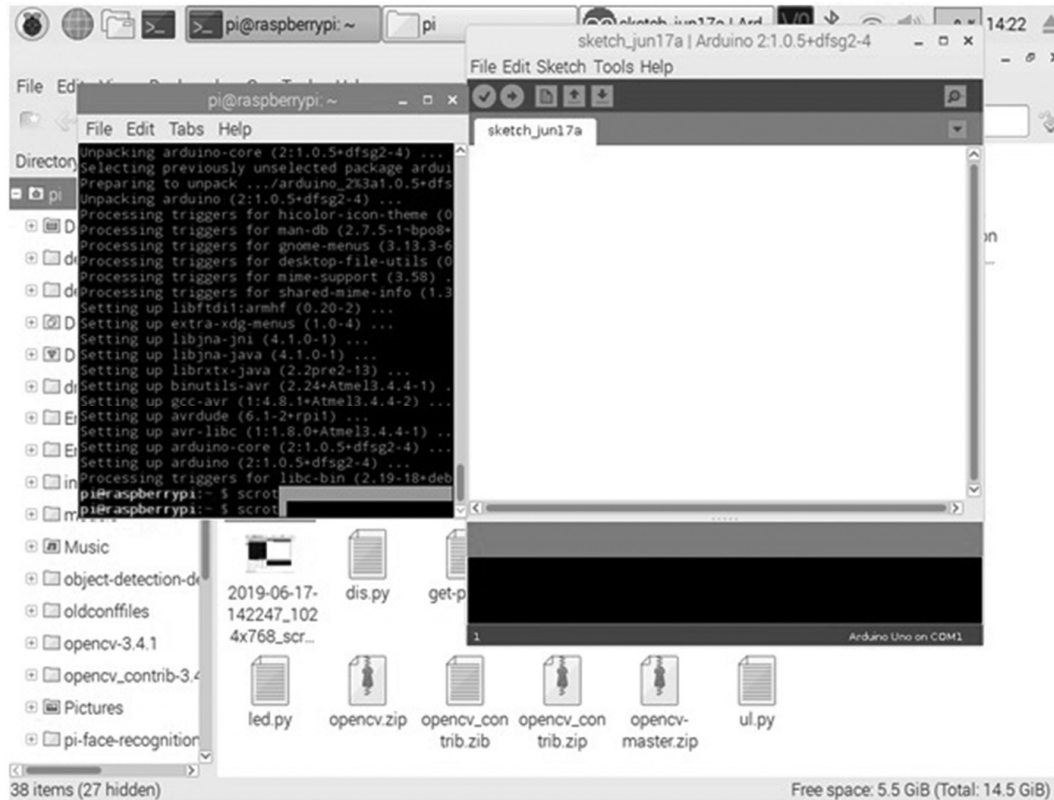

FIGURE 6.1
4. Connect an Arduino board to the Raspberry Pi using the appropriate cable and pull down the Raspbian main Menu and select Arduino IDE under the “Electronics” head. A blank window will open. Figure 6.1 shows the blank window for Arduino IDE.